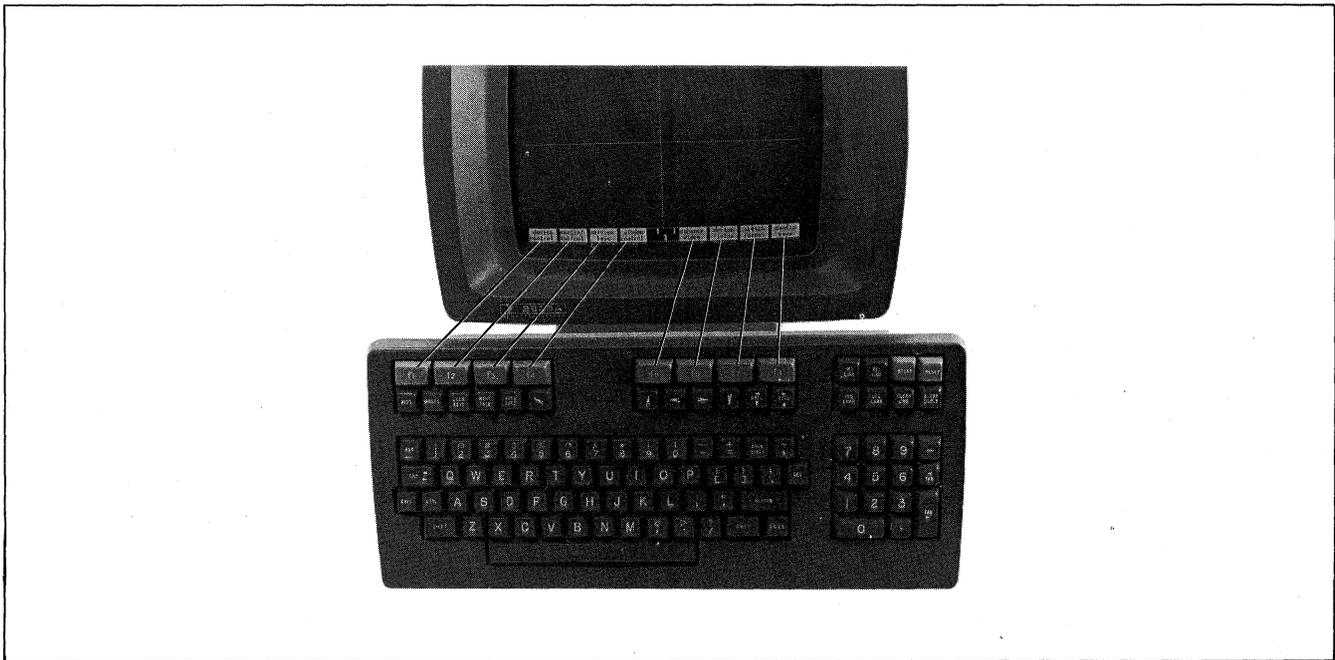

Figure 4-1. Screen-Labeled Function Keys
- **Function Key Group.** This group includes the eight keys labeled "f1" through "f8" and the keys labeled "AIDS", "MODES" and "USER KEYS". The **f1**-**f8** keys are multipurpose keys in that the functions they perform vary from one situation to another. At any given time the applicable labels for the function keys are displayed across the bottom of the screen (figure 4-1).